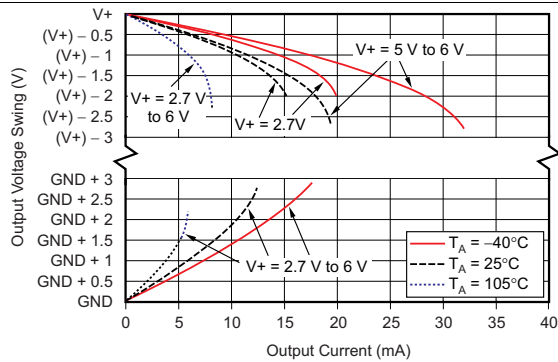

Figure 1. Output Voltage Swing vs Output Current
(1) RTI = Referred-to-input.
(2) See typical characteristic curve, *Output Voltage Swing vs Output Current* (Figure 1).